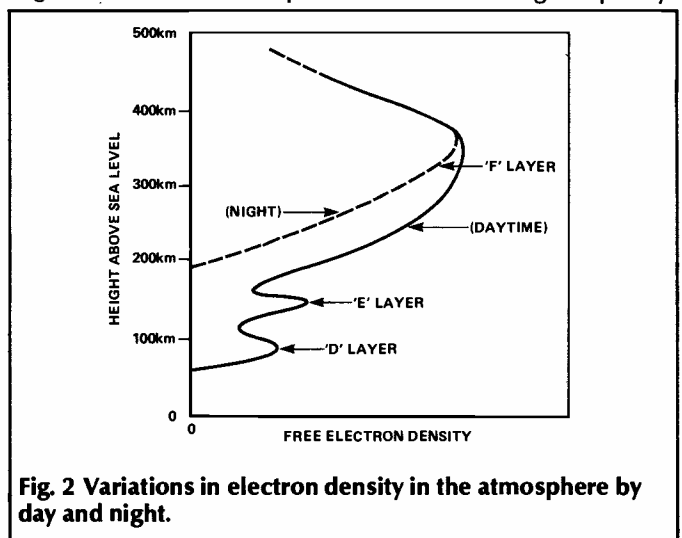

Fig. 2 Variations in electron density in the atmosphere by day and night.
The three major layers in the ionosphere are known as the D, E and F layers (Fig. 2). Long wavelength (low frequency) radiation is bent or refracted back towards the earth's surface by the first layer it encounters (D). At these long wavelengths, the irregularities on the earth's surface, such as buildings, trees and gas-holders, are